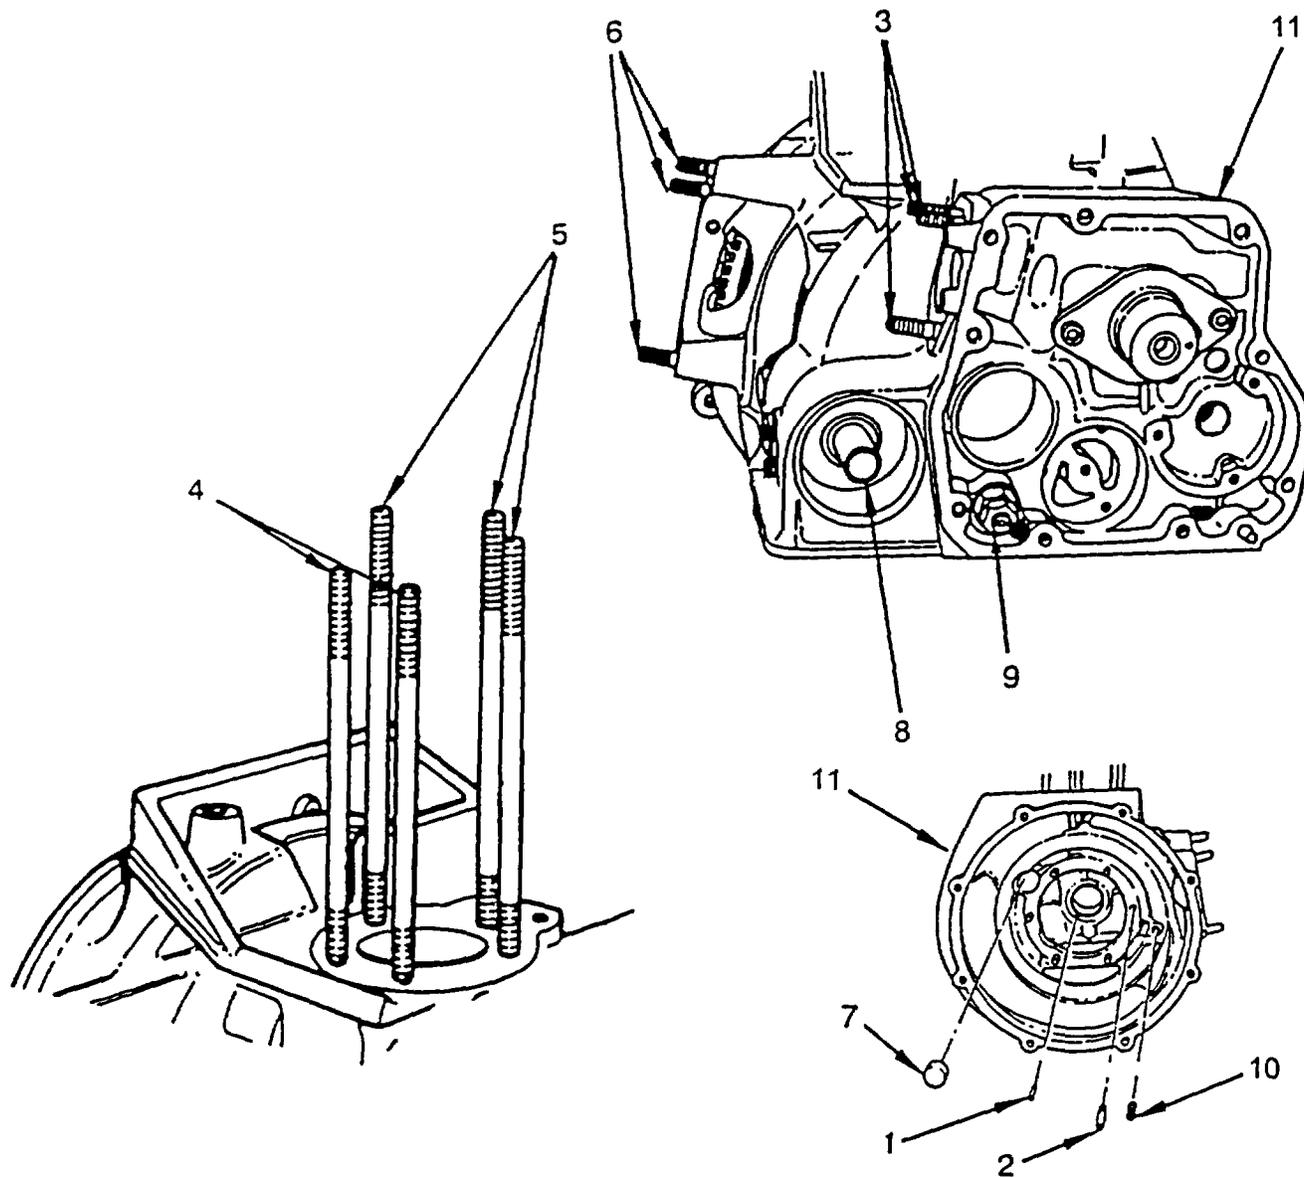

Figure 6-9. Crankcase Repair
a. Disassembly. (Refer to Figure 6-9).
- (1) Inspect pins (1), studs (2 thru 6) cam shaft bore plug (7), oil tube adapter (8), relief valve assembly (9), and oil plug (10) for damage. Replace as required. Do not adjust or disassemble relief valve assembly (9) No adjustment is required.
**Remove pins (1), studs (2 thru 6), plug (7), adapter (8), valve (9), or plug (10) only if damaged.**
- (2) Remove two pins (1) from crankcase (11).
- (3) Remove plug (7) from crankcase (11)
- (4) Remove valve (9) from crankcase (11).
- (5) Remove plug (10) from crankcase (11) near bearing housing at flywheel end.
- (6) Remove studs (2) from crankcase (11).
- (7) Remove studs (6) from crankcase (11).
- (8) Remove short studs (4) from crankcase (11).